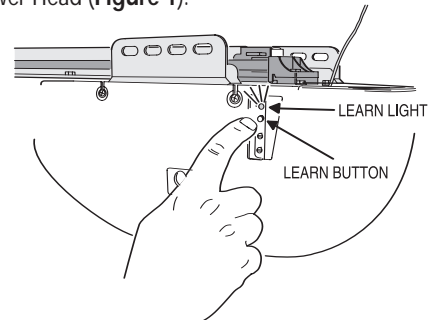

Figure 1 Learn Code Button and Indicator Light
- Locate Learn Button and Learn Indicator Light on side of Power Head (Figure 1).